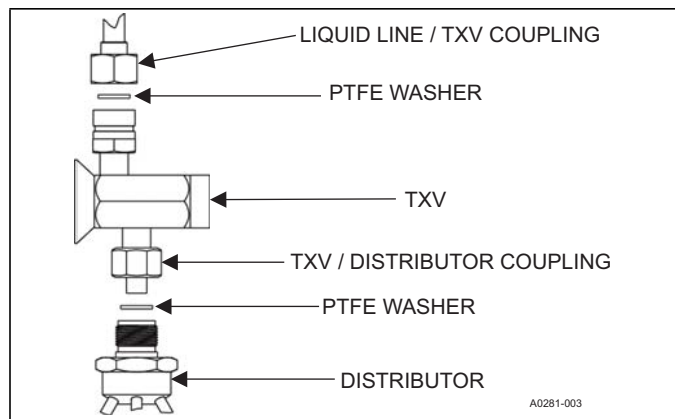

Figure 8: TXV installation
4. Install the thermal expansion valve to the distributor assembly with the supplied fittings. Ensure the PTFE washer is seated in the distributor. Hand tighten and turn an additional 1/4 turn to seal. Do not over-tighten the fittings. See Figure 8.